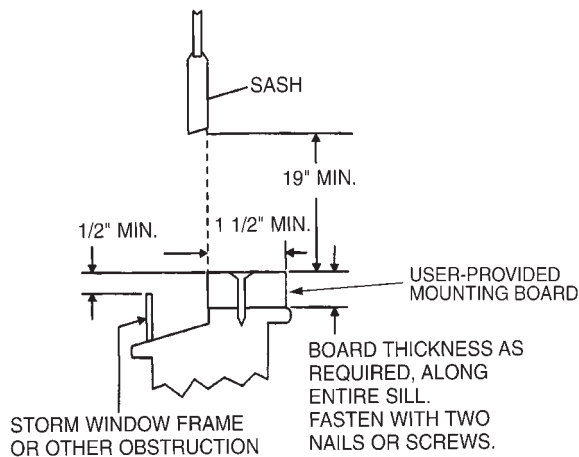

FIGURE 18 — STORM WINDOW APPLICATIONS
If the window is blocked by a storm window and the storm window cannot be removed, a mounting board (field provided) will need to be added to the window sash. The air conditioner needs to be pitched downward to the back in order for condensate to drain properly. The frame of the storm window (or any other obstruction) must be at least $\frac{1}{2}$ -in. lower than the window sill. If the storm window frame is not at least $\frac{1}{2}$ -in. below the window sill, then a mounting board will need to be added to raise the height of the window sill. See Fig. 18. The board will need to be provided and cut by the installer.
1. The wood mounting board should be a minimum of $1\frac{1}{2}$ -in. wide and should run the length of the window. The thickness of the mounting board is dependent on the height of the storm window frame. The mounting board should raise the front of the air conditioner high enough so that the unit will be pitched downward at least $\frac{5}{8}$ -in. when the back of the unit is resting on the storm window frame. See Fig. 18.